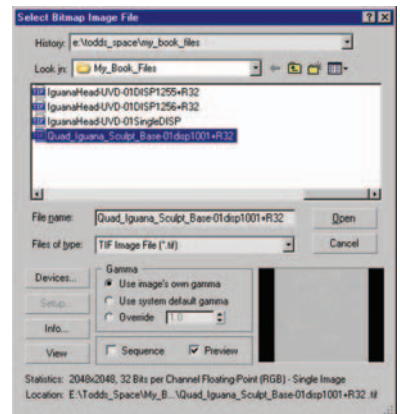

Figure 11.53 The Select Bitmap Image File dialog box with the ZBrush-generated displacement map selected.
17. Browse to the directory with the displacement map created in ZBrush. Figure 11.53 shows the displacement map file (Quad_Iguana_Sculpt_Base-01disp1001+R32) highlighted in the Select Bitmap Image File dialog box. The image is a 32-bit TIF file.